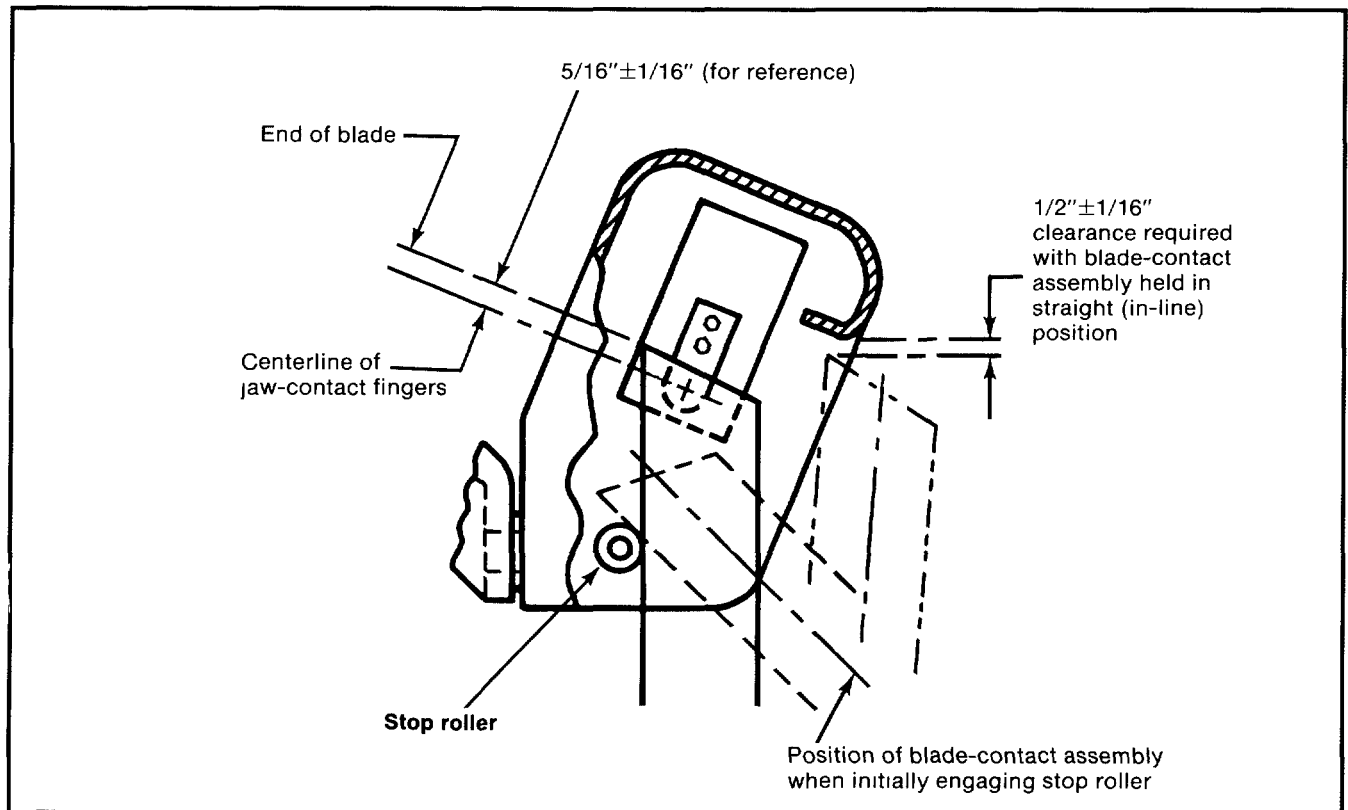

Figure 5. Jaw-contact detail.
- (a) With the grounding switch closed, hold the spring-loaded blade-contact assembly in the straight (in-line) position shown in Figure 5 and verify that it enters the jaw contact with a  $\frac{1}{2}$ -inch clearance between the end of the blade-contact assembly and the jaw-contact housing. At the same time, verify that the sides of the blade-contact assembly are parallel to the jaw-contact fingers. If adjustment is required, loosen the clamp bolts on the section of the blade clamp which fastens the clamp to the blade assembly. Then slide the blade up or down and/or rotate the blade in the blade clamp, as necessary, to attain these conditions. Tighten the blade-clamp bolts equally so that the clamp pulls down evenly.